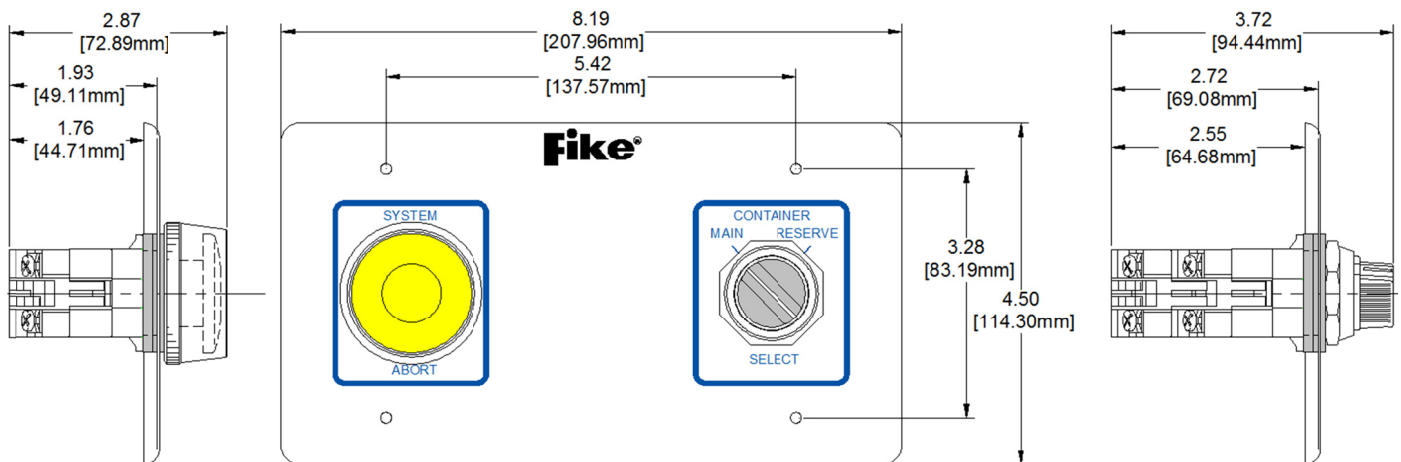

Figure 1 Switch Front and Side Views (inches/mm)
1. Remove protective plastic film from stainless steel face plate and apply the adhesive label, orientated as shown in Figure 1.
1. Apply adhesive label to the stainless steel face plate, orientated as shown in Figure 1.